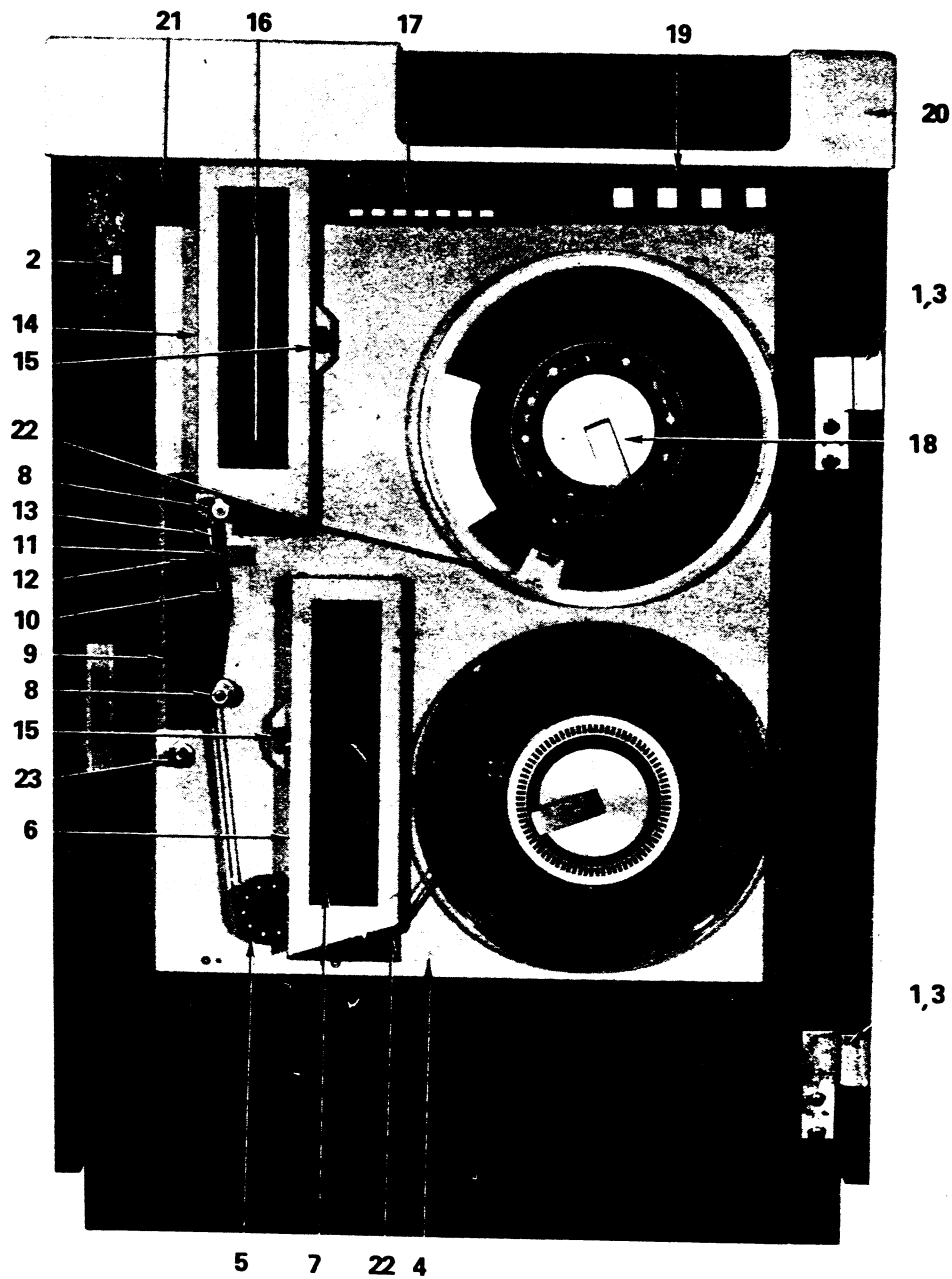

Figure 2-1. Model 2209A Front View
Writing and reading of information occurs as the tape is moved across the read/write head, (see (10) Figure 2-1.) a stationary two-section assembly. Writing occurs at the write gap portion, and reading occurs at the read gap portion of the read/write head. Information is written onto the tape by magnetizing bit patterns which represent characters on the tape. Information is read from the tape by decoding these bit patterns. Details of how the Phase Encoded electronics store and retrieve information on the tape are discussed in the next chapter.
Table 2-1. 2209A Parts List (see Figure 2-1.)
Test and control panels containing pushbutton switches and lamp indicators for operator control of the tape drive are located on the upper front of the unit. The switches and their operation are described below. To access the Test and Control panels, press the cover assembly release/latch (see (2) Figure 2-1). The cover assembly will rise approximately four (4) inches and fully expose these controls.
2.4 TAPE MOUNTING PROCEDURE (SEE FIGURE 2-1.)